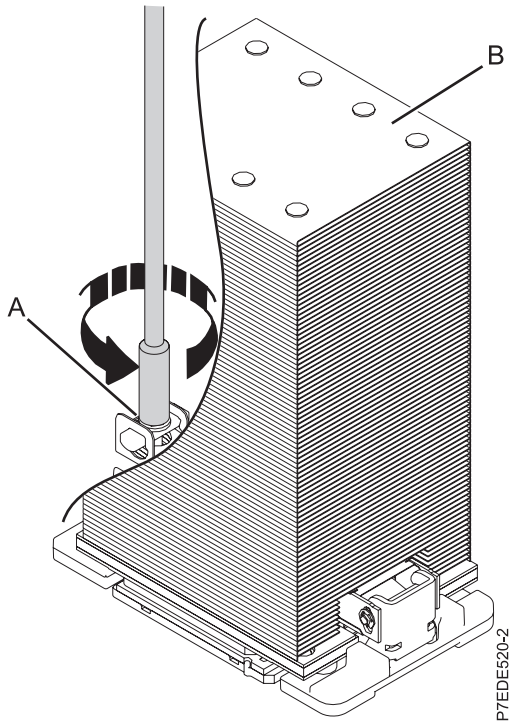

Figure 3. Removing the heat sink
- a. Loosen the heat-sink actuation screw by turning the supplied nut driver counterclockwise (**A**), as shown in Figure 3. Loosen the screw until it moves freely.